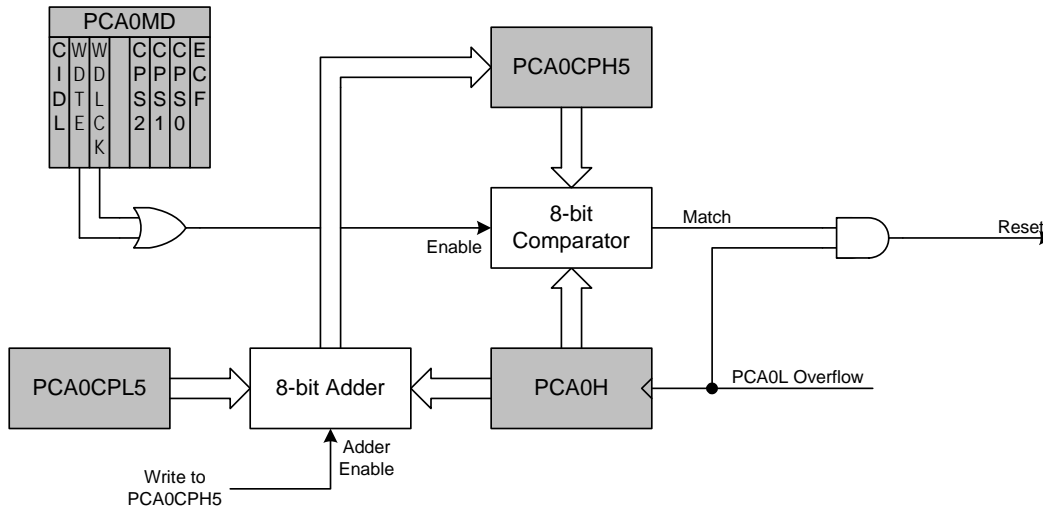

Figure 27.11. PCA Module 5 with Watchdog Timer Enabled
While the WDT is enabled, writes to the CR bit will not change the PCA counter state; the counter will run until the WDT is disabled. The PCA counter run control bit (CR) will read zero if the WDT is enabled but user software has not enabled the PCA counter. If a match occurs between PCA0PH5 and PCA0H while the WDT is enabled, a reset will be generated. To prevent a WDT reset, the WDT may be updated with a write of any value to PCA0PH5. Upon a PCA0PH5 write, PCA0H plus the offset held in PCA0CPL5 is loaded into PCA0PH5 (See Figure 27.11).